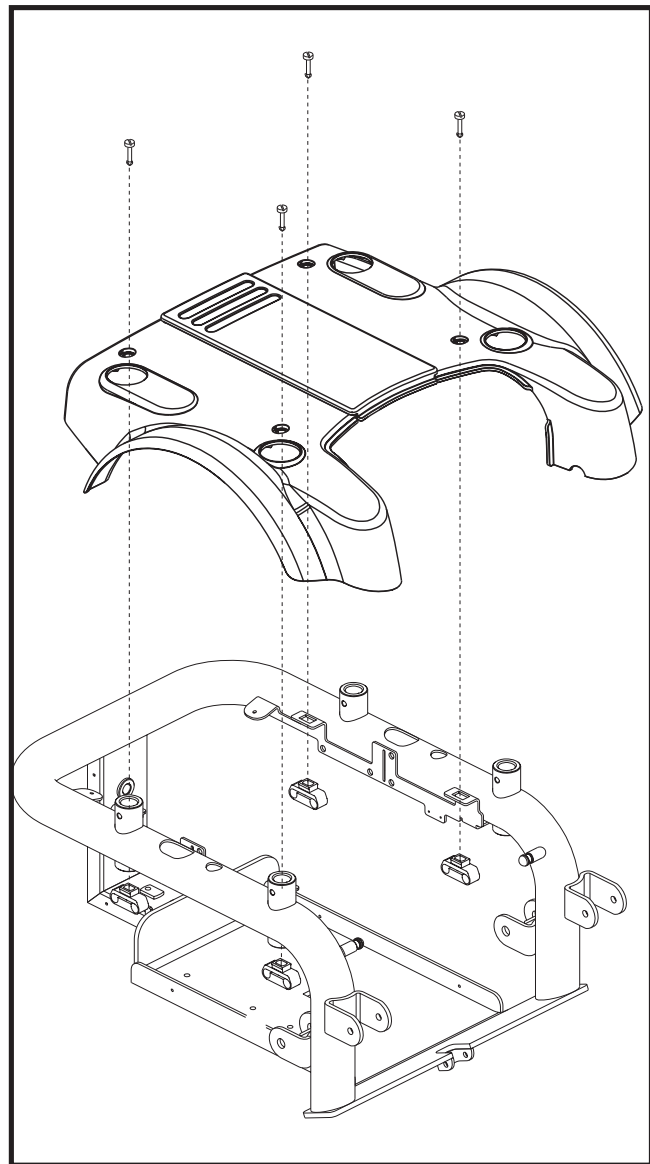

Figure 13. Jazzy 1121 Shroud Removal/Assembly
3. Remove the shroud. **See figure 13.**
- *If your multimeter indicates less than 1 ohm*, then replace the power module (4) and retest the system.
- *If your multimeter indicates an open*, then replace the charger/joystick interface harness (3) and retest the system.
13. Remove the shroud. **See figure 13.**
23. Remove the shroud. **See figure 13.**